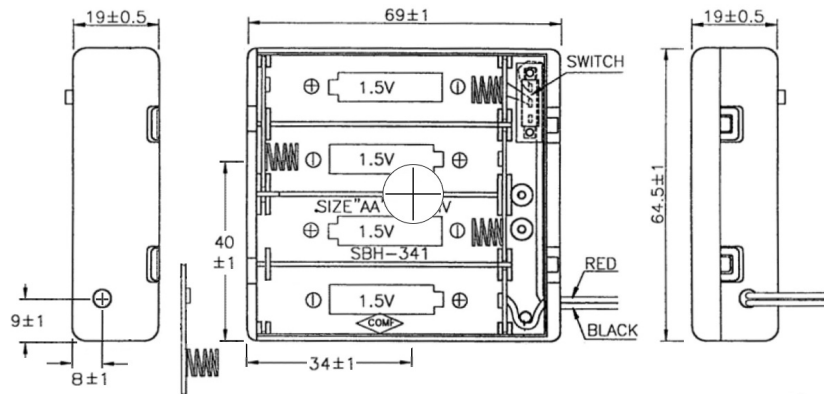

Fig 1C Drilling drawing - LED in centre position
- 1 - Open battery box [Fig 1C]